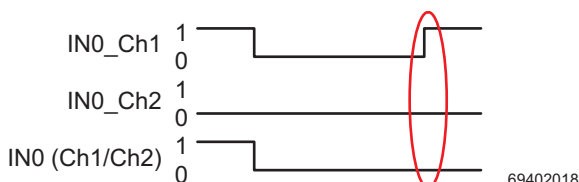

Figure 7-17 **Error** during signal change
In Figure 7-17, the condition that both signals must be in the opposite state before the change in state is not met. In this case, diagnostic message 018x_{hex} is generated.
- A “1” is transmitted if a “1” signal is present at channel 1 of the input and a “0” signal is present at channel 2 of the input **and** no error has been detected and the conditions are met for a change in state according to Figure 7-17.